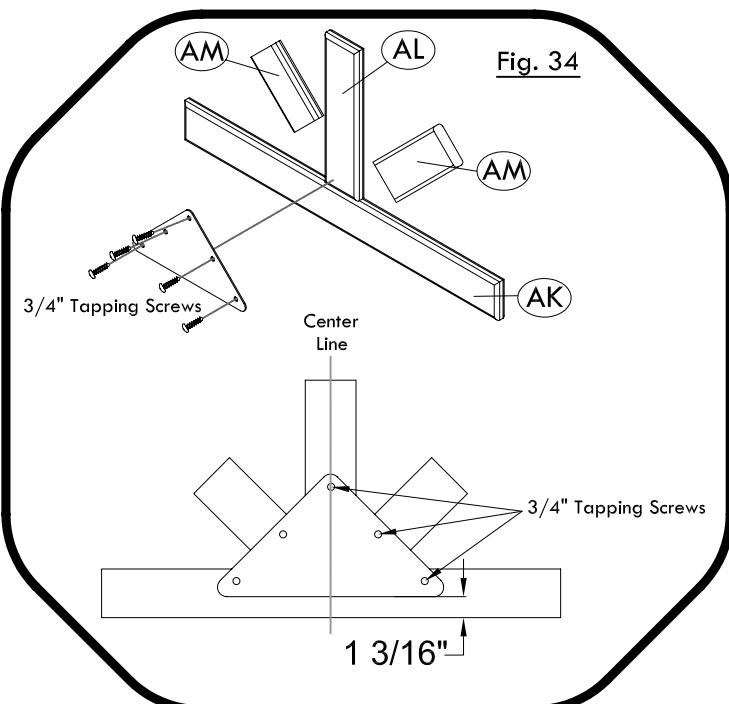

Fig. 34
Set Items 'AK', 'AL' and 'AM' on flat surface as shown below. Place Metal Sunburst Plate on top and fasten with (5) 3/4" tapping screws through predrilled holes on the Plate. Attach Sunburst Assembly to the inside of Roof Truss 'G' with 1 3/4" deck screws as shown below. Repeat this Step for other side of Roof. (see Fig. 34 & 35)